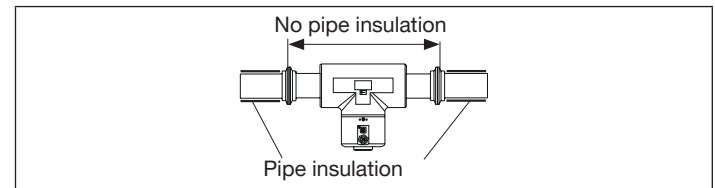
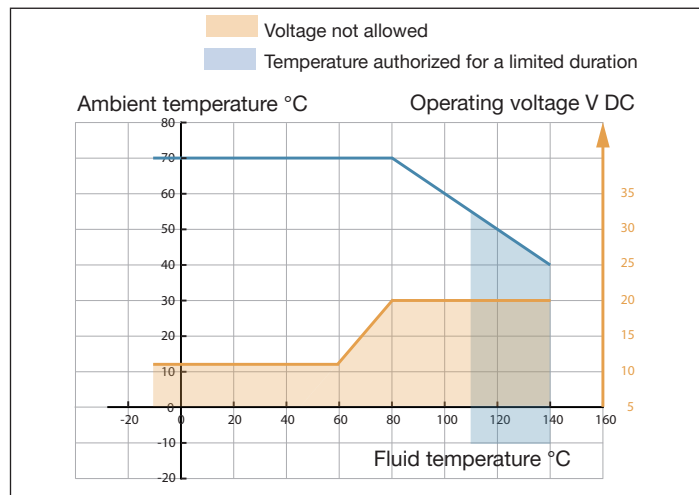

Fig. 10: Thermal insulation of the pipe
Fig. 15: Minimum supply voltage depending on the ambient temperature and the fluid temperature
- If the pipe is fitted with a thermal insulation, do not thermally insulate the measurement tube of the device to make sure that the temperature in the device is less than 70 °C . Refer to “Fig. 10” and “Fig. 15” for the minimum supply voltage.
- Observe minimum supply voltage, see “Fig. 15”.